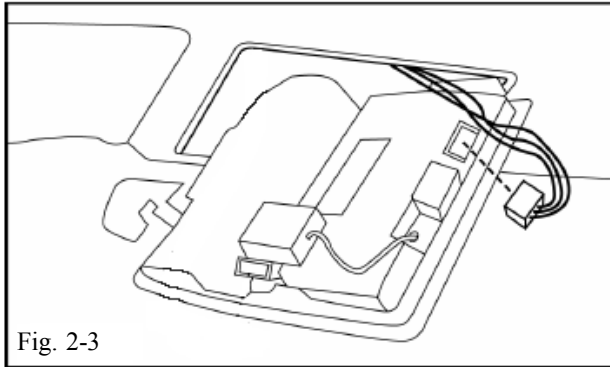

Fig. 2-3
- (c) Disconnect all connectors from overhead dome light assembly. (Fig. 2-3)